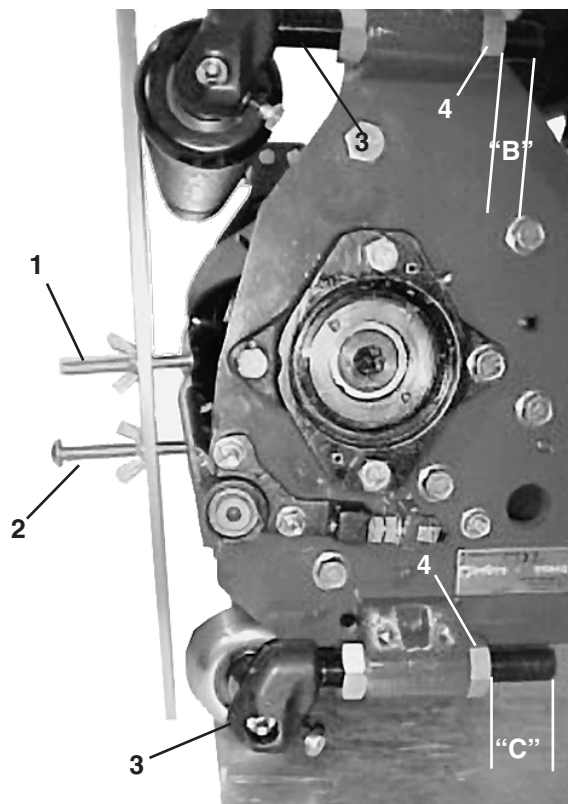

Figure 8
4. Set the front height-of-cut rod height, "B", using the dimension given in Table 1. This measurement is between the top surface of the height-of-cut rod and the top cone nut (Fig.8).
5. Set the rear support casting in either the top or bottom location indicated in table 1. Set the rear height-of-cut rod height 3 mm less than the dimension given in Table 1, which will create a gap between the rear roller and the gauge bar (Fig. 8).
6. Place the gauge bar across the front and rear rollers. The first screw head should fit snugly over the edge of the bedknife and the end of the second screw should contact the bottom of the bedknife (Fig. 8). If there is a gap between the front roller and the gauge bar, or if you cannot put the gauge bar on, adjust the front roller until 1) the first height-of-cut screw fits snugly over the bedknife, 2) the second screw just contacts the bedknife, and 3) the gauge bar